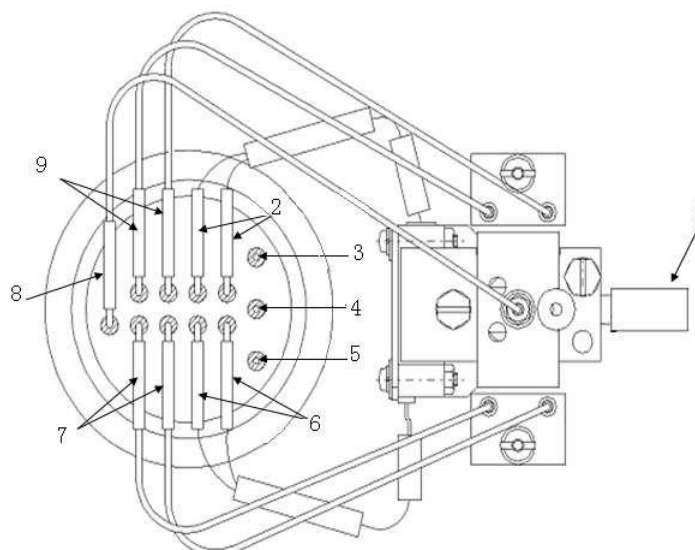

Figure 2-9 Ion source
- (1) Make sure that the main power of the instrument is switched off.
- (2) Loosen the 4 nuts on the front panel with a sleeve; remove the front panel.
- (3) Use a tweezer wiped by alcohol or acetone to remove the filament lead terminal (see Figure 2-9).